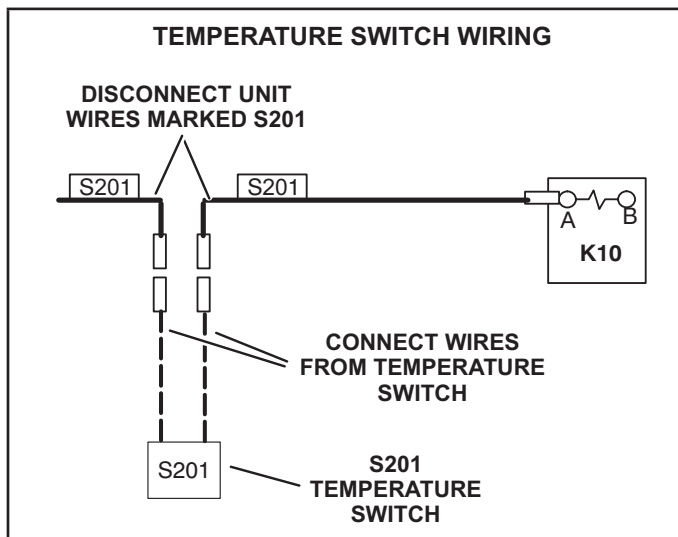

FIGURE 4
- 3 - Make wiring connections as shown in figure 4.